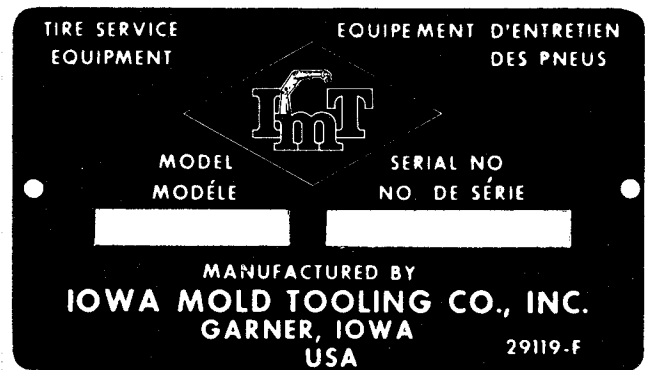

Figure D-1. Serial Number Placard
Every crane has an identification placard (Figure D-1) attached to the mast. When ordering parts, communicating warranty information or referring to the unit in correspondence, always include the assigned serial and model numbers. All inquiries should be addressed to Iowa Mold Tooling Co., Inc.; 500 Highway 18 West; Garner, Iowa 50438 or telephone (515) 923-3711.